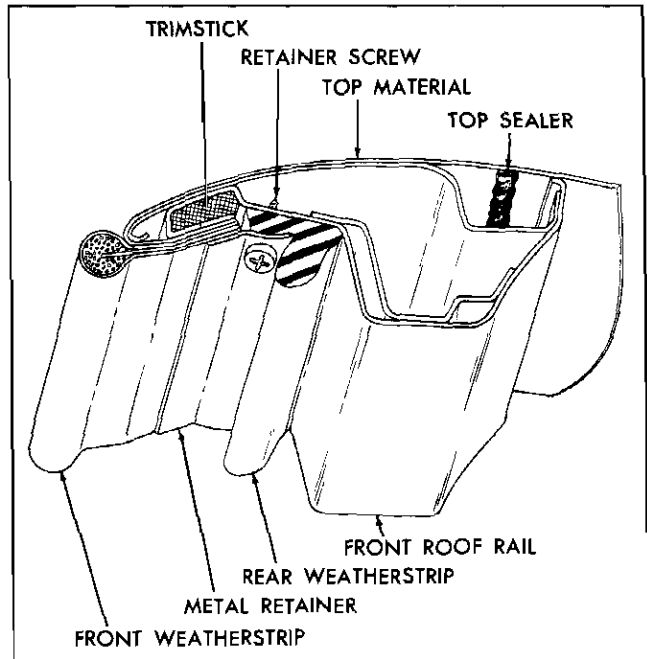

Fig. 7-46 Front Roof Rail Sealing
29. Apply bead of convertible top sealer to inner lining of top material along front roof rail. Sealer bead should be roughly parallel with forward edge of top material and located so that sealer will be completely concealed by front roof rail when top is installed (Fig. 7-46).